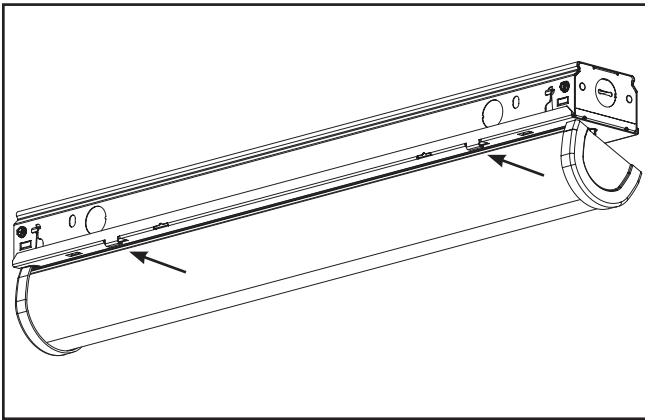

Figure 2.
2. Secure one side of the lens to the luminaire by sliding it along the channel cover until the lip of the lens is located beneath each of the lens clips. (Figure 2.)